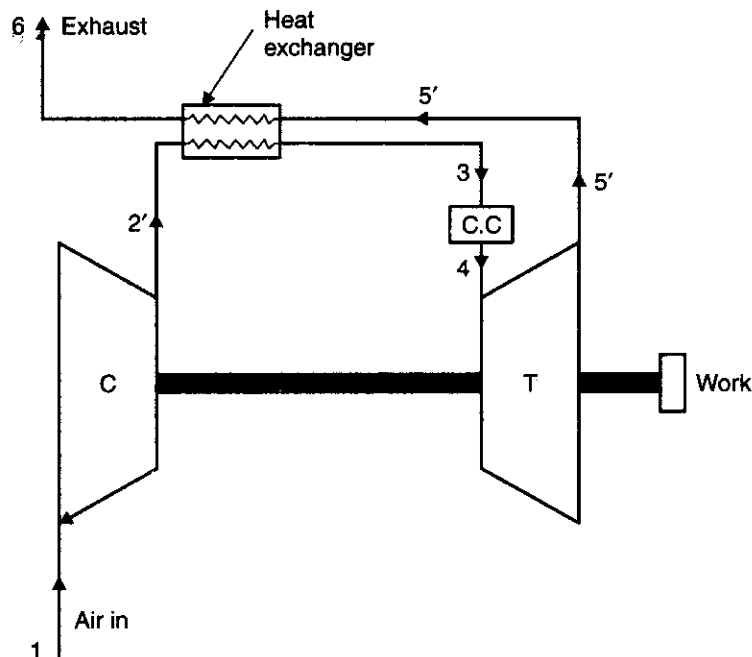

Fig. 13.41. Gas turbine with regenerator.
**3. Regeneration.** The exhaust gases from a gas turbine carry a large quantity of heat with them since their temperature is far above the ambient temperature. They can be used to heat the air coming from the compressor thereby reducing the mass of fuel supplied in the combustion chamber. Fig. 13.41 shows a gas turbine plant with a regenerator. The corresponding  $T$ - $s$  diagram is shown in Fig. 13.42. 2'-3 represents the heat flow into the compressed air during its passage through the heat exchanger and 3-4 represents the heat taken in from the combustion of fuel. Point 6 represents the temperature of exhaust gases at discharge from the heat exchanger. The maximum temperature to which the air could be heated in the heat exchanger is ideally that of exhaust gases, but less than this is obtained in practice because a temperature gradient must exist for an unassisted transfer of energy. The *effectiveness* of the heat exchanger is given by :